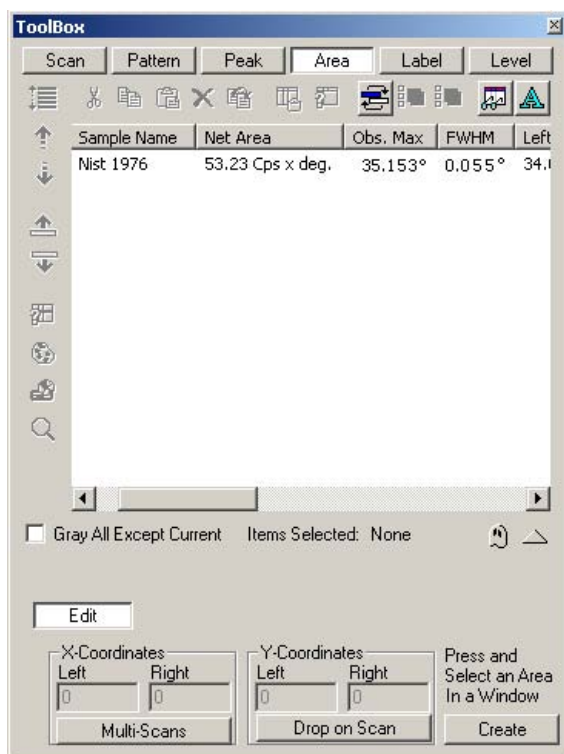

Figure 8.4 - EVA toolbox
4. Review the data displayed in Toolbox (see Figure 8.4). Alignment is complete when FWHM matches the specifications in Table 8.2.